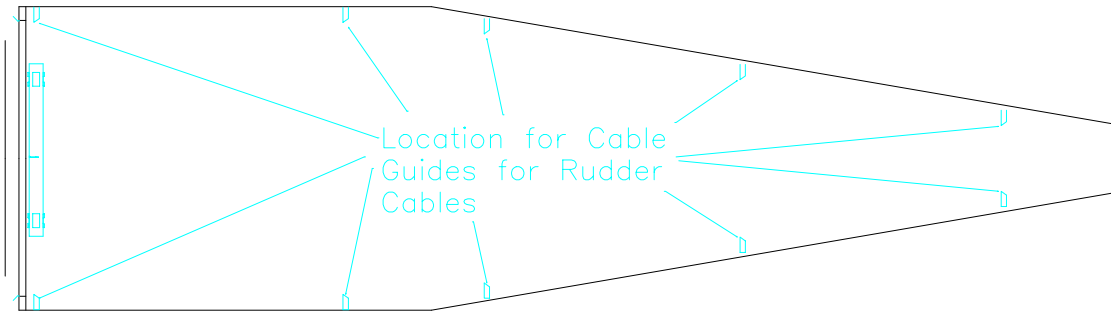

Figure 15.12.3
- 6) Locate and install cable guides for the rudder cable along the inside walls of the fuselage. Ensure cable clears the mixer controls. Keep cable as straight as possible. Figure 15.12.3.